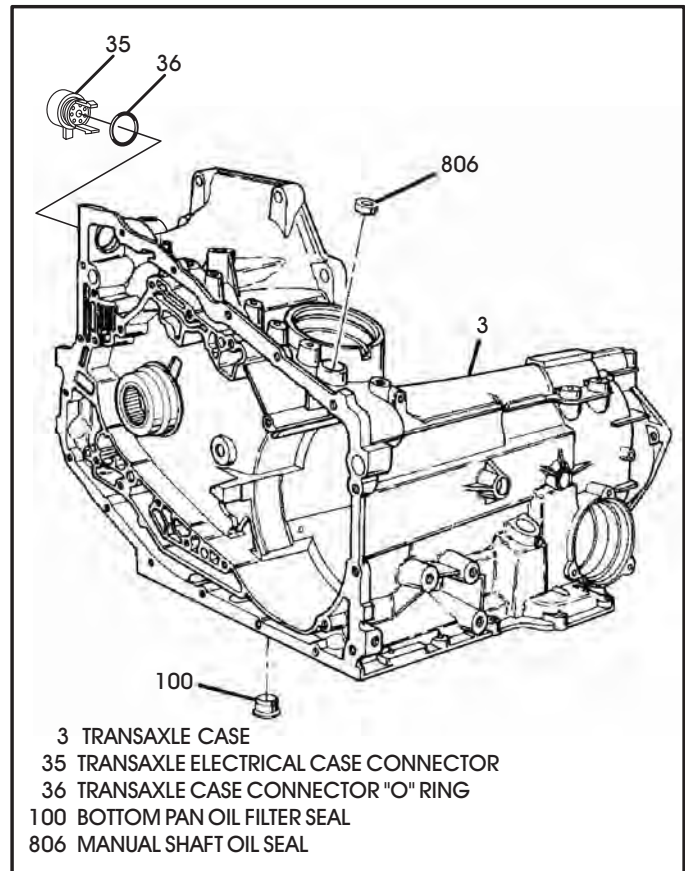

Figure 74
3. Install new "O" ring seal onto transaxle case connector, as shown in Figure 74, and lube with small amount of Trans-Jel®
4. Install case connector into the transaxle case until it snaps into position (See Figure 74).
5. Install new oil filter seal into the case bore using the proper seal installer (See Figure 74).
6. Install new manual shaft seal and lubricate with small amount of Trans-Jel®, as shown in Figure 74. Use a 15mm deep socket to tap the seal into position in case.